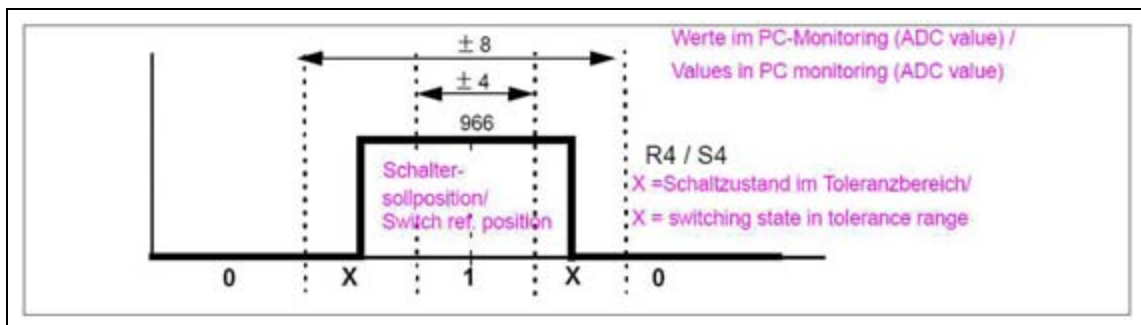

Fig. 18: Adjusting S4
- Adjust reference switch S4 so that switching is assured within the stated switching hysteresis tolerance range (refer to (Fig. 5 / p. 36) and (Fig. 18 / p. 51)).
- Check the switching hysteresis of the reference switch S4 according to drawing ((Fig. 18 / p. 51)).